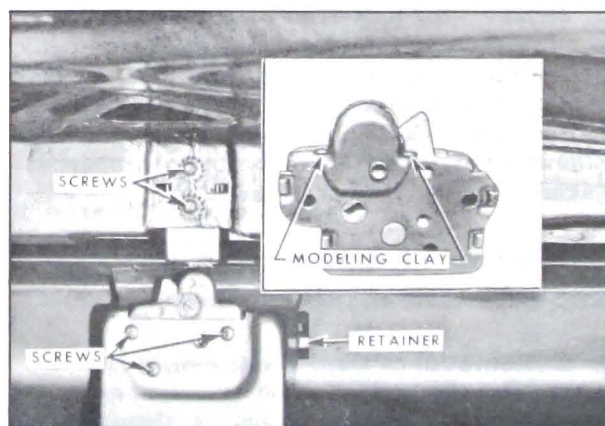

Figure 4-14—Rear Compartment Lid Lock and Striker
2. Remove lock cylinder retainer (Figure 4-14) and remove lock cylinder assembly.
The rear compartment lid lock is attached to the rear end panel lock support by screws (Figure 4-14).
The rear compartment lid lock striker is attached to the rear compartment lid inner panel by screws (Figure 4-14).
1. Insert a small quantity of modeling clay on frame of lock at both sides of the lock bolt as shown in inset of Figure 4-14. Close lid with moderate force.